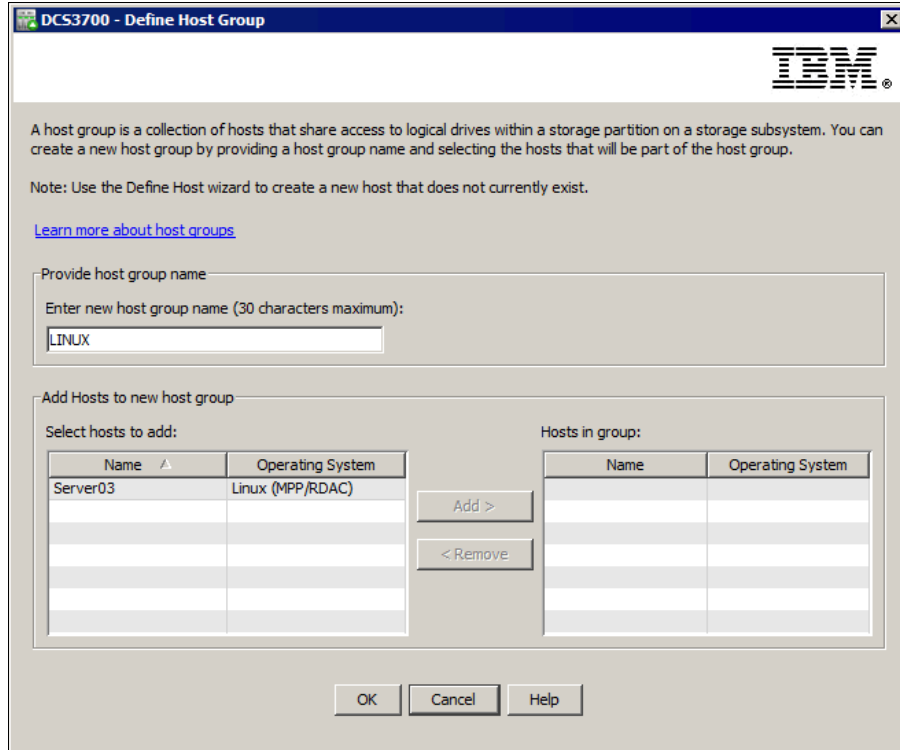

Figure 10-19 Define Host Group name
- The Define Host Group window (Figure 10-19) opens. Enter the name of the host group that you want to define. Select every host that you want to add to the group and click **Add**. If you select no hosts to add, the host group stays empty and you can move existing hosts in to it later, or you can add a host to this empty host group during host definition. When you are done, exit the window by clicking **OK**.